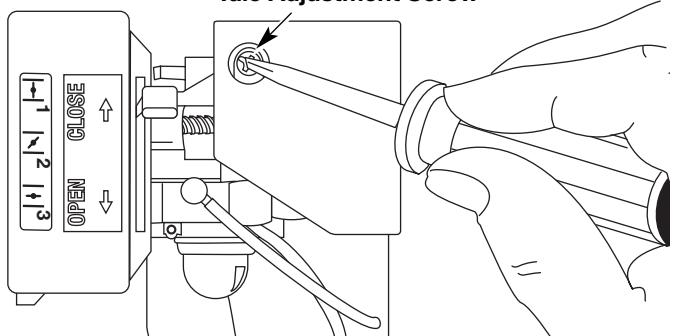

Fig. 26
The idle speed of the engine is adjustable. An idle adjustment screw is between the air filter cover and the engine starter housing (Fig. 26).
- Move the throttle control lever to the Slow position (↔) and let the engine idle. If the engine stops, insert a small phillips in between the Air Filter Cover and the Engine Cover (Fig. 26).